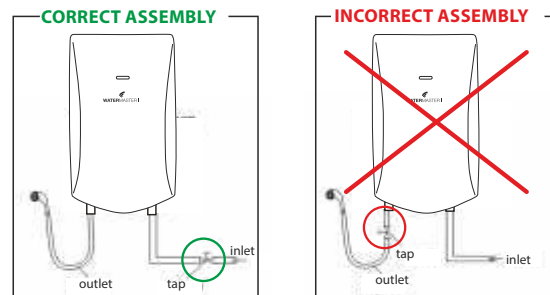

Fig. 14
4. A tap cutting off cold water supply shall be installed upstream its inlet to water heater. It is prohibited to install the cut-off tap at hot water outlet from water heater (Fig. 14).